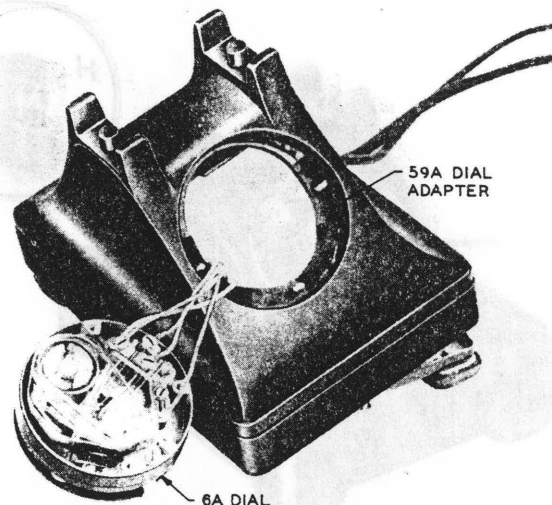
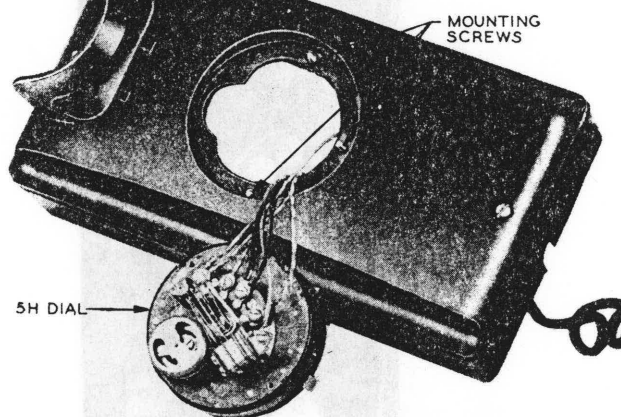

Fig. 11 — Dial Assembly, 302G Telephone Set
Fig. 12 — Dial Assembly, 354C Telephone Set
3.04 The assembly of a 6A dial with a 59A adapter in the 302G telephone set is shown in Fig. 11. Fig. 12 shows the assembly of a 5H dial in the 354C telephone set.